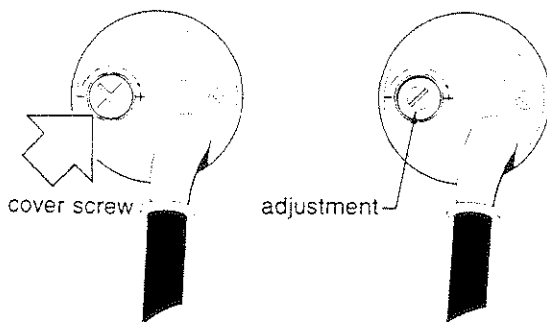

Fig. 54 Sensitivity adjustment
18. **ADJUST LEVEL DETECTOR** The cover screw at the back of the level detector covers the sensitivity adjustment (fig. 54). Remove the cover screw and O-ring. The O-ring provides a seal against dirt and moisture.